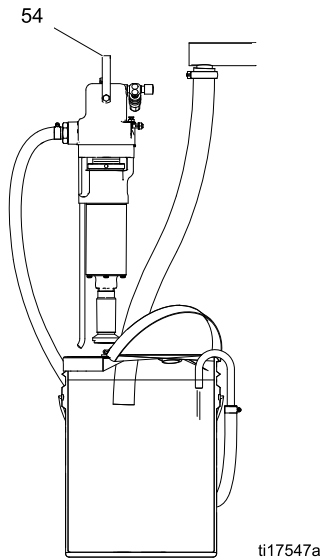

Figure 4 Drain the Ink
Raise the hinged part of the pail cover and hook the nozzle of the supply hose to the pail. Use the handle (54) to lift the pump out of the pail and operate it until as much of the ink as possible has been pumped out. Drain the remaining ink from the supply hose. See Fig. 4.